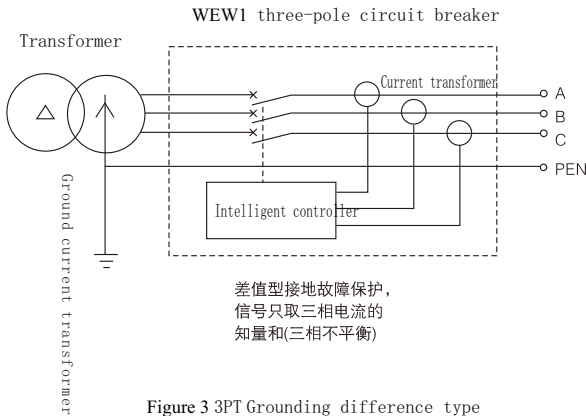
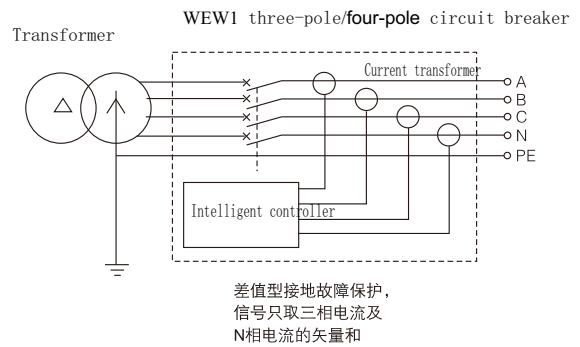
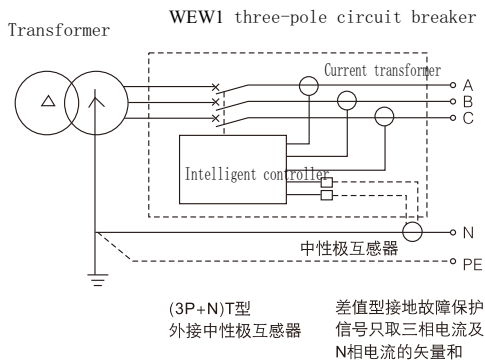

Figure 3 3PT Grounding difference type
Figure 4 4PT Grounding difference type
Figure 5 (3P+N) T Grounding difference type
Single phase grounding leakage protection refers to metal grounding protection with a fault current of several amperes or more, generally used in neutral directly grounded systems. The controller has two different protection methods, One type is differential type (T), and the controller protects based on the vector sum of three-phase current and neutral pole current. It can be divided into three forms: 3PT, 4PT, and (3P+N), as shown in Figure 3 and Figure 4, respectively Figure 5. Another type is ground current type (W), where the controller directly takes an additional current transformer output current signal between the neutral point of the main power supply and the ground for protection. The transformer has N-line PE between stages, a neutral pole transformer or current transformer is added.